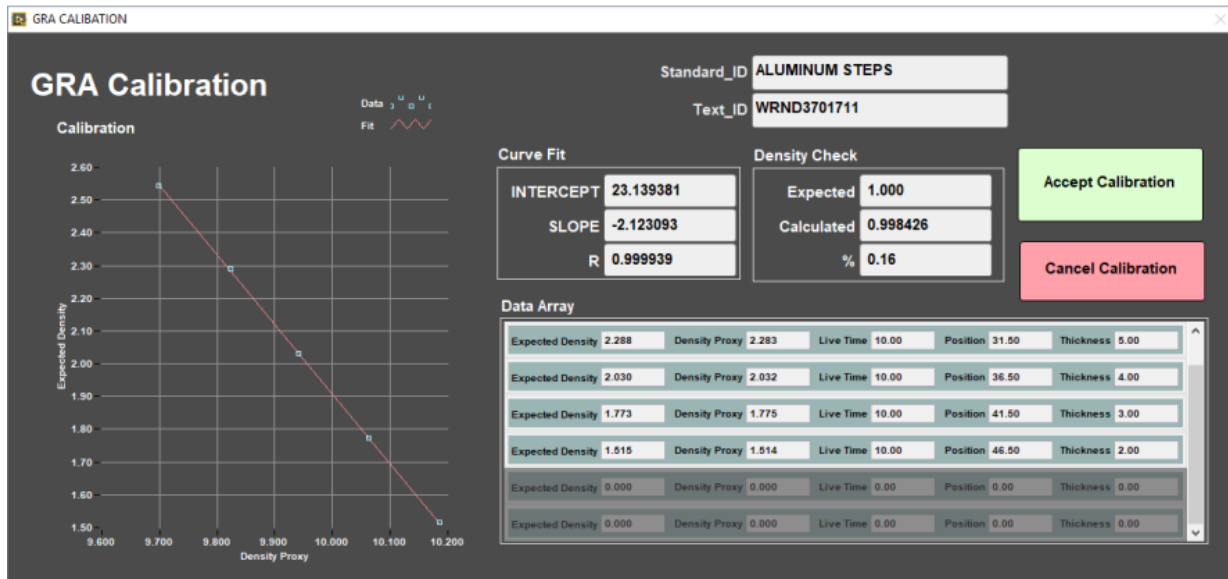

Figure 5. GRA Calibration window.
5. After the standard is measured, the calibration data displays in the graph along with the calibration line (*Figure 5*).